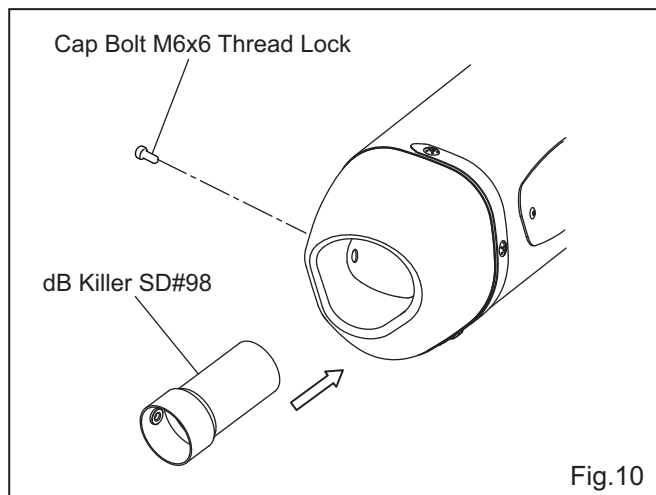

Fig.10
- 9) If necessary, install dB Killer SD#98 using Cap Bolt M6x6 Thread Lock. (See Fig. 10) Tighten and torque the bolt.